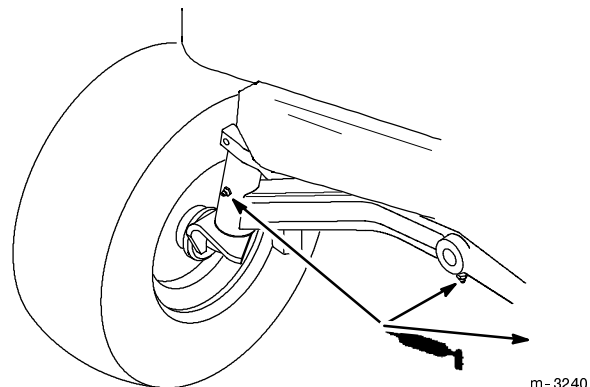

Figure 29
- Lubricate the left-hand and right-hand spindles until grease begins to ooze out of the bearings (Fig. 29).
- Lubricate the front axle pivot (Fig. 29).